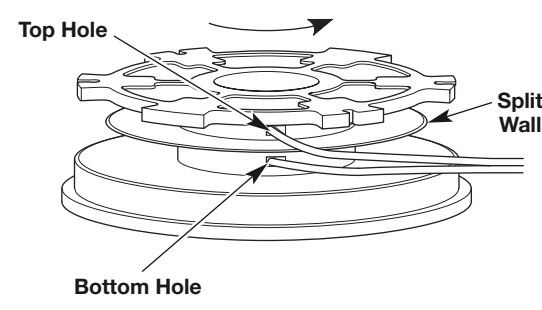

Fig. 17
2. Using one split end, insert one line into the top hole and the other line into the bottom hole in the inner reel (Fig. 17).